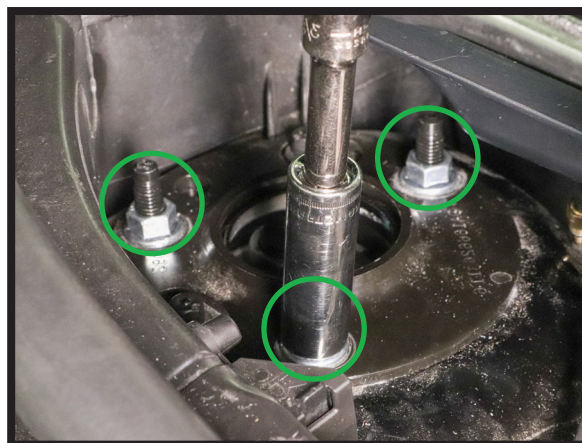

FIGURE 4
6. REMOVE THE THREE (3) TOP MOUNT NUTS. (FIGURE 4)